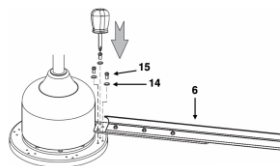

Fig. 16
1. Attach the blades (#7) to the fan assembly using the flat washers (#14) and screws (#15) (Fig. 16).